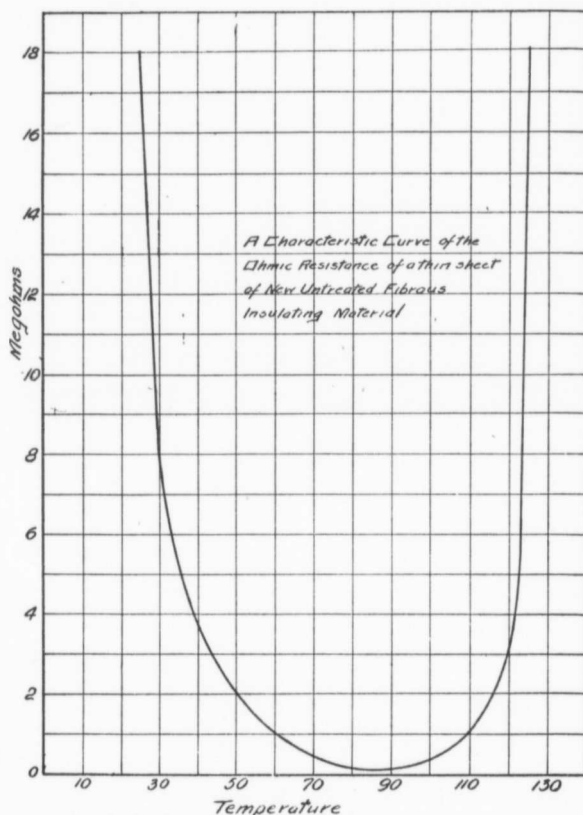

Fig. 1—Characteristic Curve of the Ohmic Resistance of a Thin Sheet of New Untreated Fibrous Insulating Material.
Fig. 1 is a characteristic curve of the ohmic resistance of a thin sheet of untreated fibrous insulating material taken from the stock and subjected to a drying process.
(1) The ohmic resistance and dielectric strength of moist insulation are higher when cold than when hot.
(2) In expelling the moisture from a transformer it is bound to accumulate more or less in certain parts owing to the complex structure of the transformer, thereby causing the ohmic resistance to vary considerably until such an amount is expelled that the remaining moisture passes out at a diminishing rate, when the ohmic resistance will begin to rise.
(3) In the case of a thin sheet of insulating material, where the moisture is free to get out at all points without accumulating perceptibly at any one place, the ohmic resistance will gradually decrease to a minimum and then increase gradually, forming practically a smooth curve as indicated in Fig. 1.
(4) The decrease in ohmic resistance with the rise of temperature is evidently due to the presence of moisture (provided no chemical